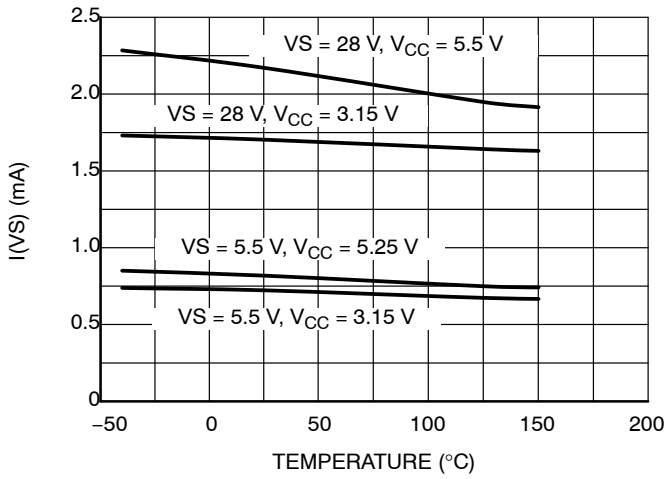

Figure 10. I(VS) vs. Temperature
- Refer to Figure 10. I(VS) versus Temperature.